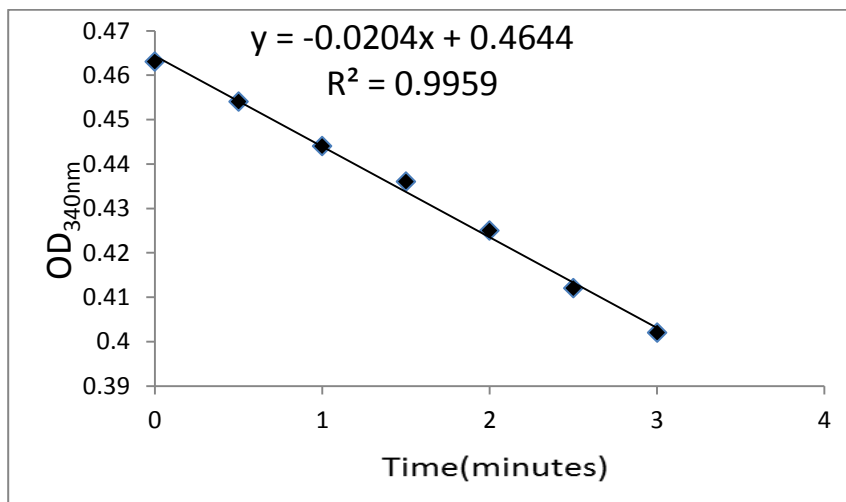

Figure.1 Absorbance change of diluted GPDH positive control at 340nm.
Diluted GPDH positive control is measured with the GPDH Assay kit after different time of reaction (Figure 1 and 2). The detection limitation is from 0.00675 to 0.108 U/mL.
2. Add 90 µL of working reagent mix into each well of the 96-well plate containing diluted GPDH positive control, samples and blank, mix well immediately and start recording OD_{340nm} over a 3 minutes interval, collecting data every 0.5 min. Figure 1 shows data of GPDH positive control.